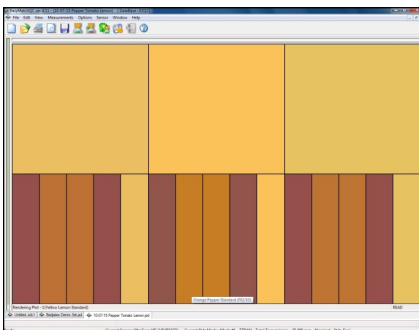

Figure 16. Color Render Plot.
5. The **Color Render** view (Figure 16) shows a color rendering of measurements highlighted in the Job Tree view. This makes it easy to visually compare standards and samples even when the physical standards and samples are no longer available. By placing the mouse cursor over an area of the Color Render view, you may display a flag indicating the name of the item displayed and the illuminant/observer combination shown.